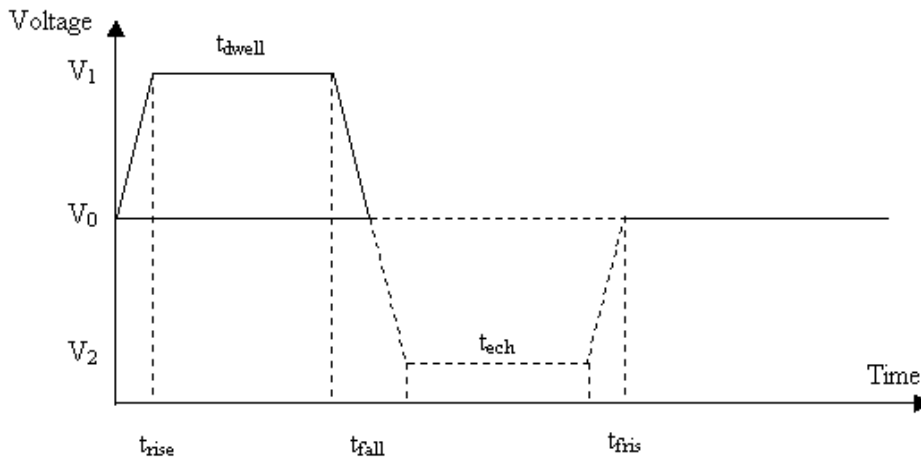

Figure 9 - Waveform Set-up
3. Switch the pneumatics panel from Purge to On to transfer control to the fine adjust pressure regulator. Adjust the large, fine adjust, regulator until the fluid meniscus is flush with the device frontal face. Often a lint free swab is useful in cleaning the front face of the orifice in order to verify the pressure level. Figure 9 shows possible situations that arise at the orifice.